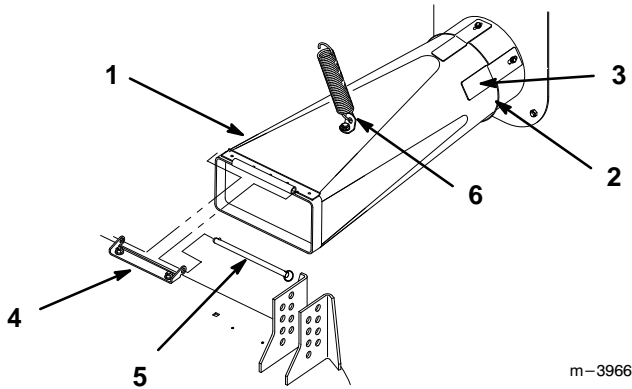

Figure 12
2. Raise the mower and slide the chute into the blower inlet, below the guide straps (Fig. 12).
3. Lower the mower and slide the chute forward against the rear of the mower. Secure the chute to the mower with the locking pin (Fig. 12).
4. Hook the free end of the spring you installed on the traction unit previously (Fig. 1) to the bracket on the top of the chute as shown in Figure 12.